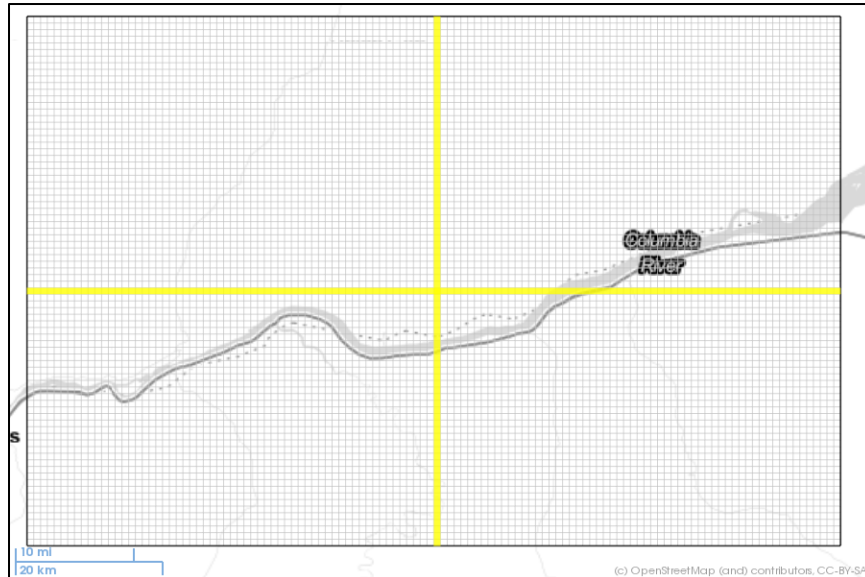

Figure 14. The Grid Editor with the grid cursor
- To Start the Grid Editor:** Select *Discretization > Grid*. Figure 14 shows the Grid Editor, with the grid cursor highlighting the entire row and column at the selected cell location. You can use the Pan tool (Section 3.6.1) and Zoom tool (Section 3.6.2) to interact with the map, to move the grid cursor, and/or adjust the model grid.